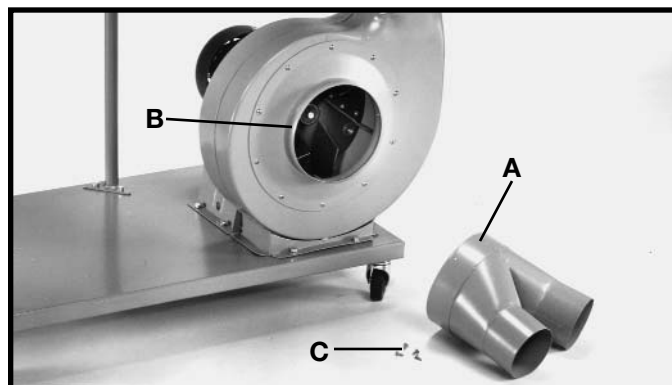
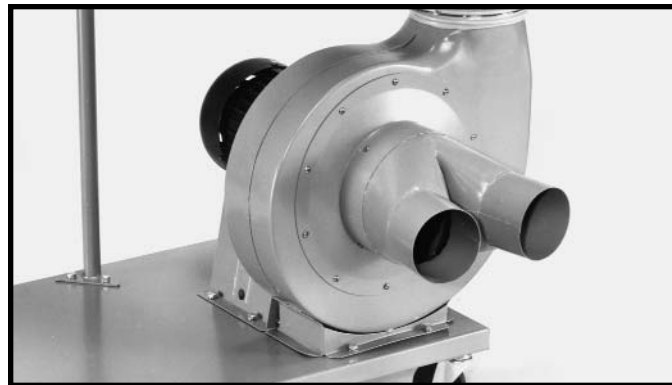

Fig. 15
Fig. 16
2. Align the four holes in dust intake port (A) Fig. 15, with the mounting holes in flange (B) of blower and motor assembly and fasten with four sheet metal screws (C). Fig. 16 illustrates the dust intake port assembled to the blower assembly.